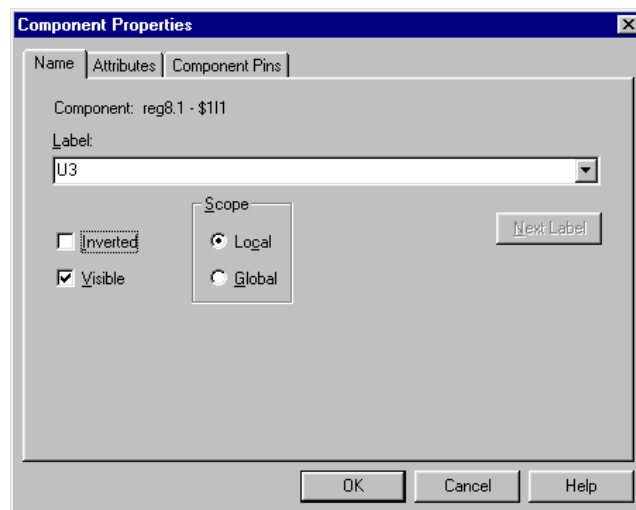

Figure 17 - labeling components
8. Label the components as indicated on the lab handout by double clicking on the component and adding the name on the **Name** tab in the **Component Properties** dialog box (Figure 17).